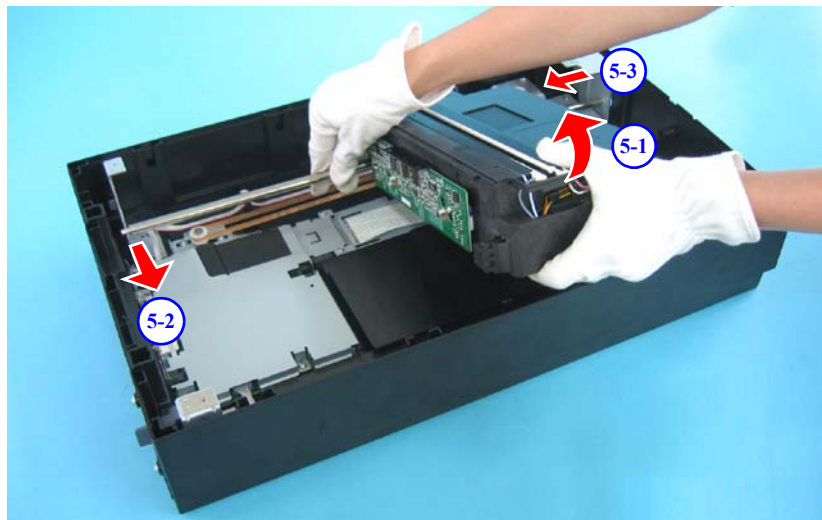

Figure 4-25. Removing the Carriage Shaft (3)
6. While lifting the Carriage Unit as shown in Figure 4-25, remove the rear of the Carriage Shaft from the notch, and pull the front of the Shaft out of the bushing in the Base Frame.